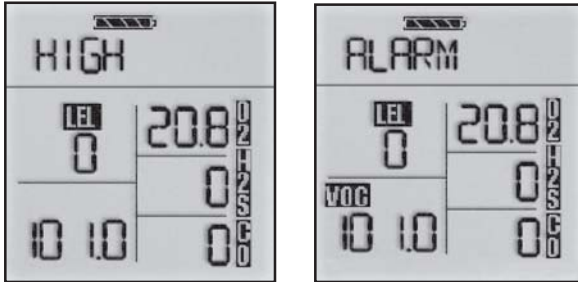

Figure 10:
4.1.2 Toxic Gas and VOC Measurements (Figure 10)